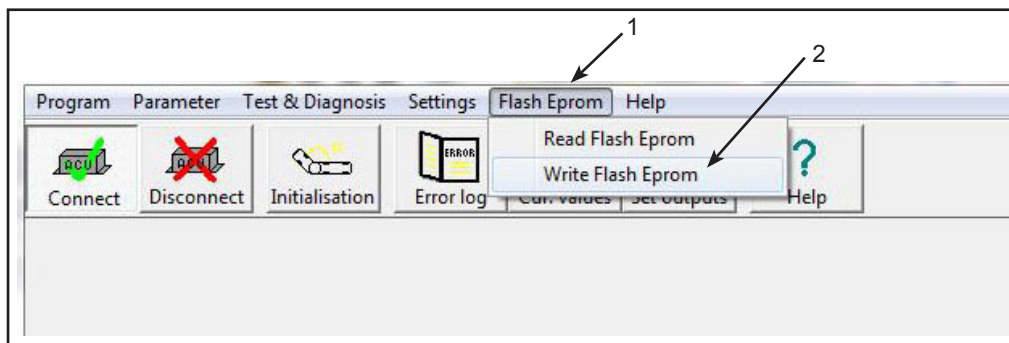

Figure 7 - Hübner Software Top Menu
1.12. Select **FLASH EPROM** (1) from the Hübner software top menu. See Figure 7.
1.13. Click on **WRITE FLASH EPROM** (2) in the sub-menu. See Figure 7.
If you can't access **WRITE FLASH EPROM** (2), (see Figure 7), contact your Nova Bus customer support manager.